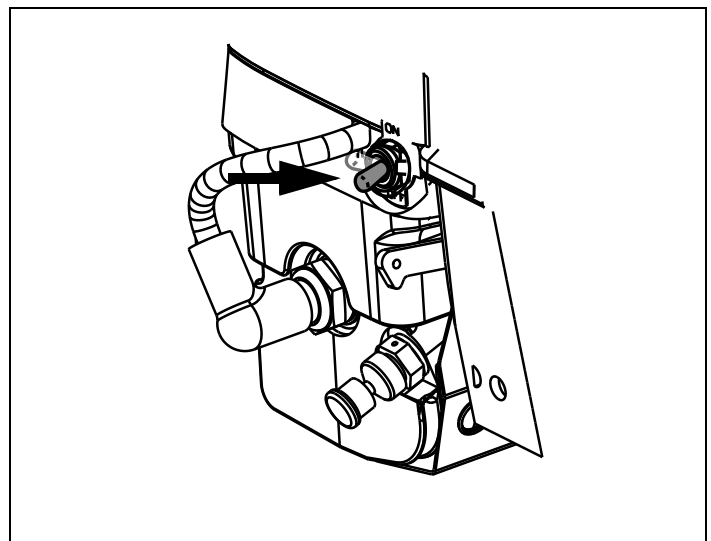

Figure 3. Switch in "OFF" Position
- Turn off all engine switches. See Figure 3.